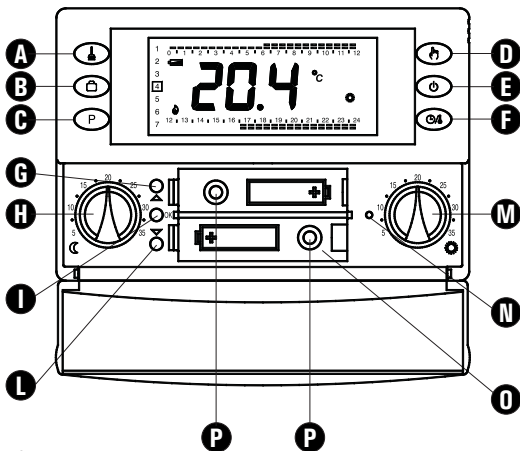

Fig. 4
- 1. Aprire lo sportellino che dà accesso al vano pile (Fig. 4).**
- 4. Eseguire, se necessario, un reset tramite il tasto indicato in N di Fig. 4; **NON USARE AGHI O STRUMENTI CHE POSSANO DANNEGGIARE IRREPARABILMENTE IL CRONOTERMOSTATO.****
5. Insert the batteries in the battery compartment (O in Fig. 4); see paragraph 'HOW TO INSERT/REPLACE THE BATTERIES'.
Insert the batteries in the battery compartment, observing the polarities indicated (see paragraph 'HOW TO INSERT/REPLACE THE BATTERIES') and carry out a reset operation by inserting a pointed object through the hole provided (N in Fig. 4); **DO NOT USE NEEDLES OR TOOLS THAT COULD IRREPARABLY DAMAGE THE CHRONOSTAT.**
'OK': For programming the time and current day of the week (I in Fig. 4);
'▲': Forward (G in Fig. 4);
'▼': Back (L in Fig. 4);
The Comfort temperature is set by means of the '⚙️' knob (M in Fig. 4) whereas the Economy temperature is set by means of the '🌡️' knob (H in Fig. 4).